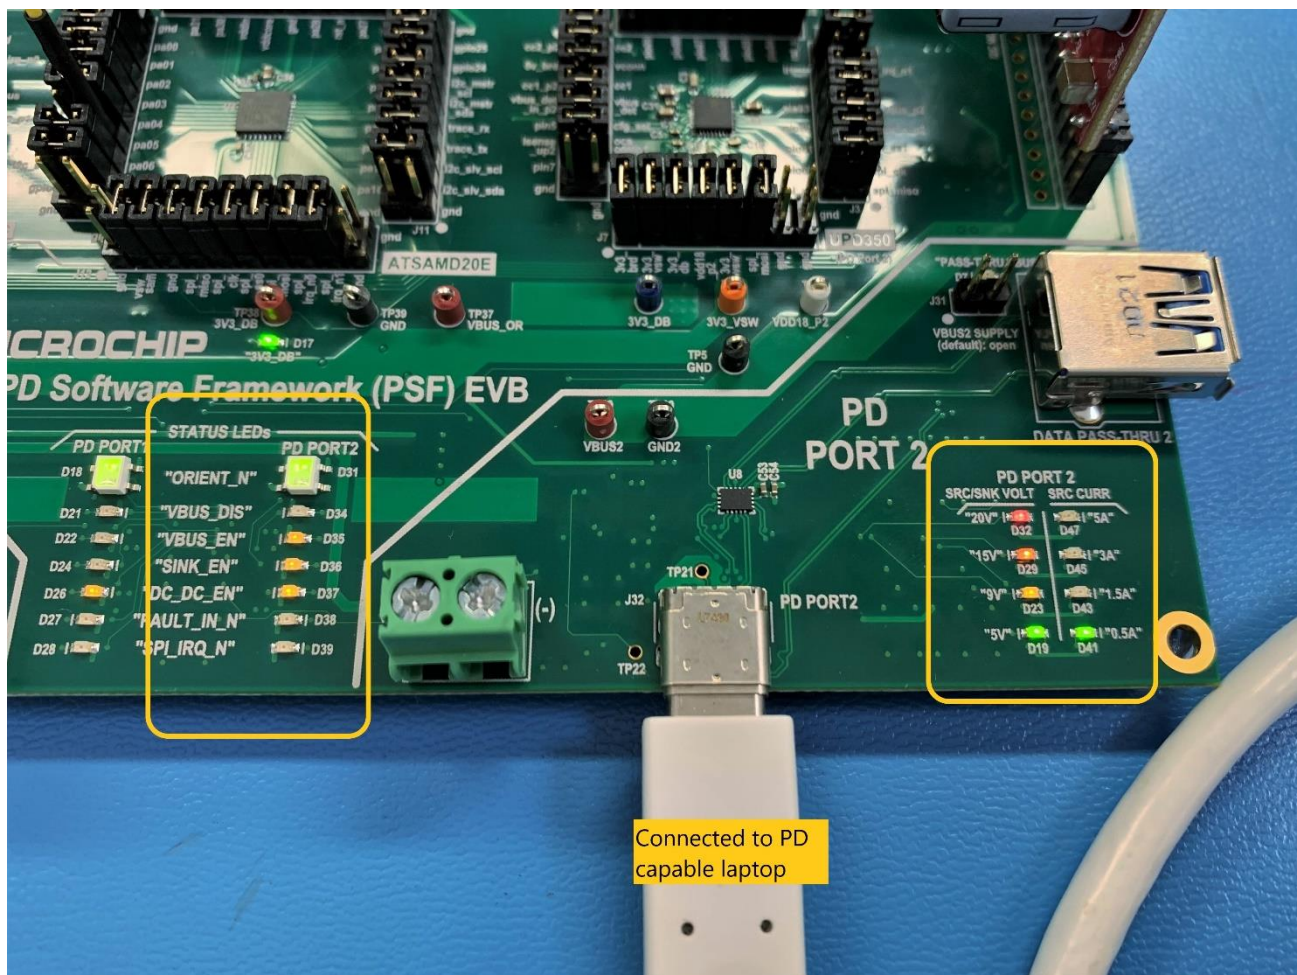

Figure 7.2 VBUS\_EN, DC\_DC\_EN and PDO Status LEDs when attached as Source
4. Once an explicit power contract negotiation is in place, the device starts charging. PDO status LEDs will turn on indicating the negotiated voltage as shown in Figure 7.2